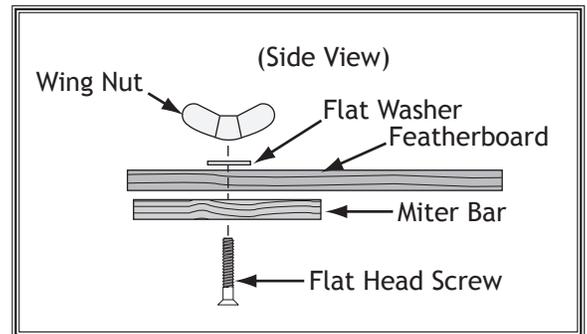

Figure 81. Assembling miter slot featherboard components.
8. Assemble miter bar and featherboard with a $\frac{1}{4}$ "-20 flat head screw, flat washer, and a wing nut or a star knob (see **Figure 81**). Congratulations! Your featherboard is complete.